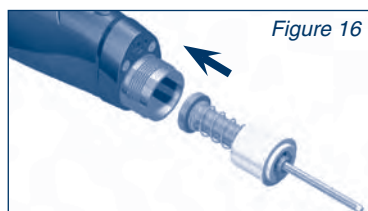

Figure 16
- 7) Reassemble the piston, spring and spring guide; then carefully insert the assembly into the handle of the pipette (figure 16). The spring guide should hold the piston assembly inside the handle of the pipette.